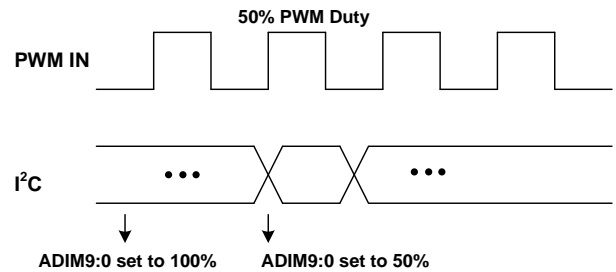

Figure 8: PWM Dimming via PWM Input
3. **PWM Dimming Mode via PWM Pin:** This mode is activated if MOD2:0 = 010. In this mode, the LED current is chopped as a PWM waveform. The PWM frequency is set by the internal FPWM3:0 bits. The duty cycle is dependent on the calculated value from the PWM pin signal. The current amplitude can be changed by via the ADIM9:0 10-bit value (see Figure 8).